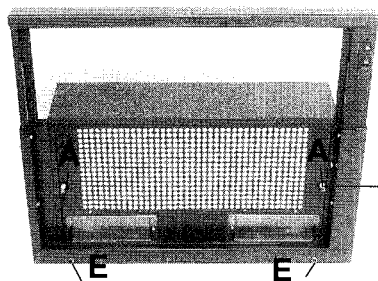
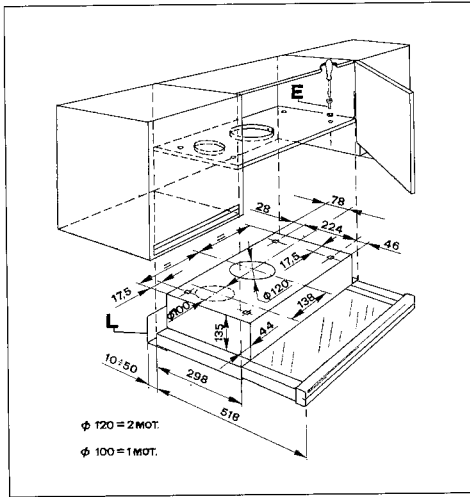
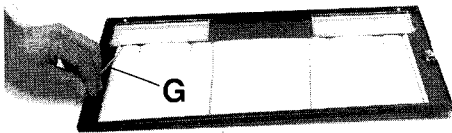

Fig. 2
Fig. 4
Fig. 5
- Open the grill by turning the locks A (fig. 2).
- Drill the holes on the bottom of the cupboard using the drilling diagram supplied with the unit. From inside the hood insert the 4 screws E 3,5x35 (fig. 4) supplied with the unit and screw them onto the
nuts F (fig. 6-7). Adjust the angle frame L (fig. 4) tightly to the wall, making use of the apposite screws E (fig. 2). Make a hole dia. 110-115 mm. on the bottom and the top of the cupboard (130-135 mm. in case of hoods with two motors) for the passage of the exhaust pipe.
2) Filter in layers of stretched aluminium: at more or less frequent intervals according to the use of the appliance, in any case at least once every 30 days of normal use, wash the filter in the dish washer or in soapy water. In order to remove the filter first remove the grill by turning the locks A (fig. 2). Remove the stops G (fig. 5) and take out the filter H. It is advisable when cleaning the grease filter to also wash the grill in luke-warm water and soap.